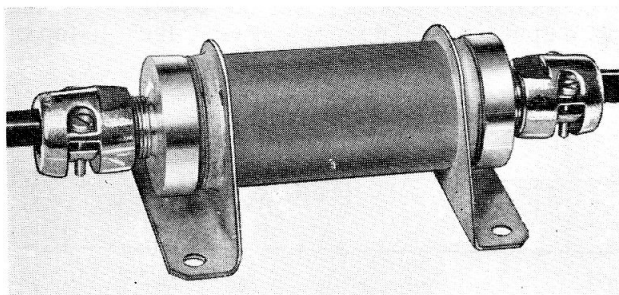

Fig. 1. Over-voltage unit
1. The over-voltage unit (fig. 1) is a component in the Gravinier explosion protection system. It is in effect an electronic relay which trips in the event of the power pack output voltage exceeding the desired limit.